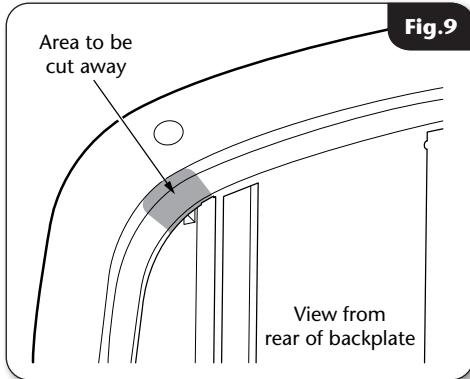

Fig. 9
- If surface cable entry from the top is required then a small area will need to be cut out in the backplate (**fig.9**).